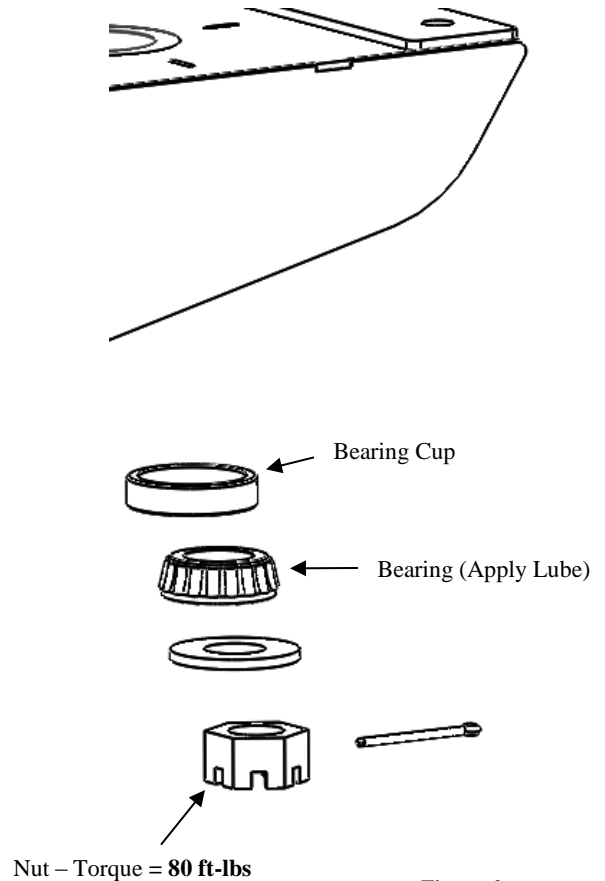

Figure 2
7. Install the Bearing Cup, Bearing (with lube applied), flat washer, and the nut (figure 2). Torque nut to **80 ft-lbs**, then install the cotter pin. (Make sure the Bearing is orientated per figure 2.)